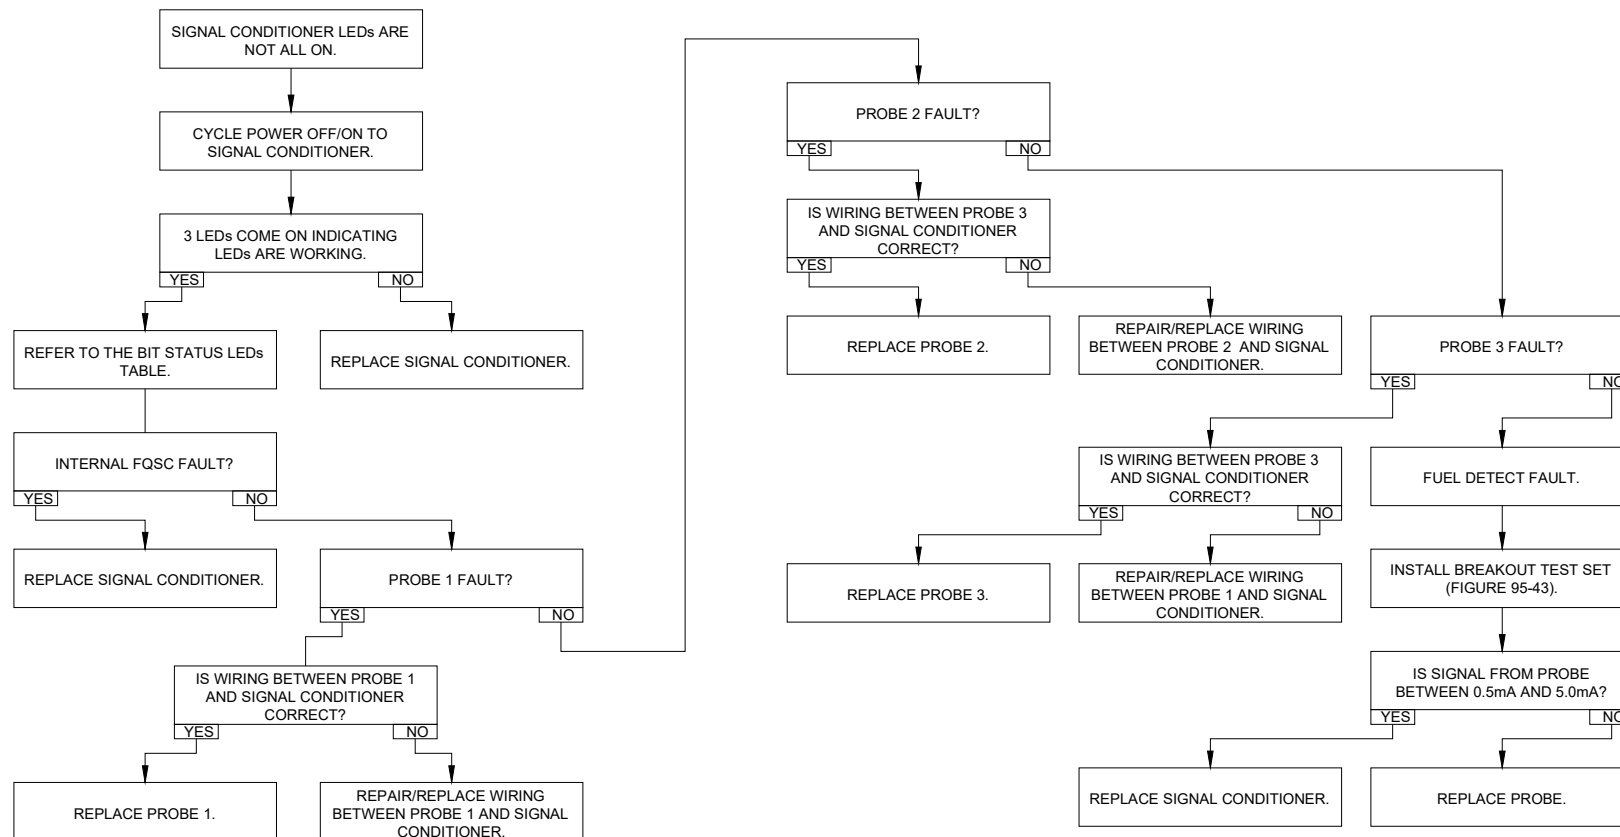

Figure 95-44: Low Level Function of Forward Fuel Cell Probe No. 3 - Trouble No.1
- If the LEDs on the signal conditioner are not all on, refer to Trouble No.1 (Figure 95-44).